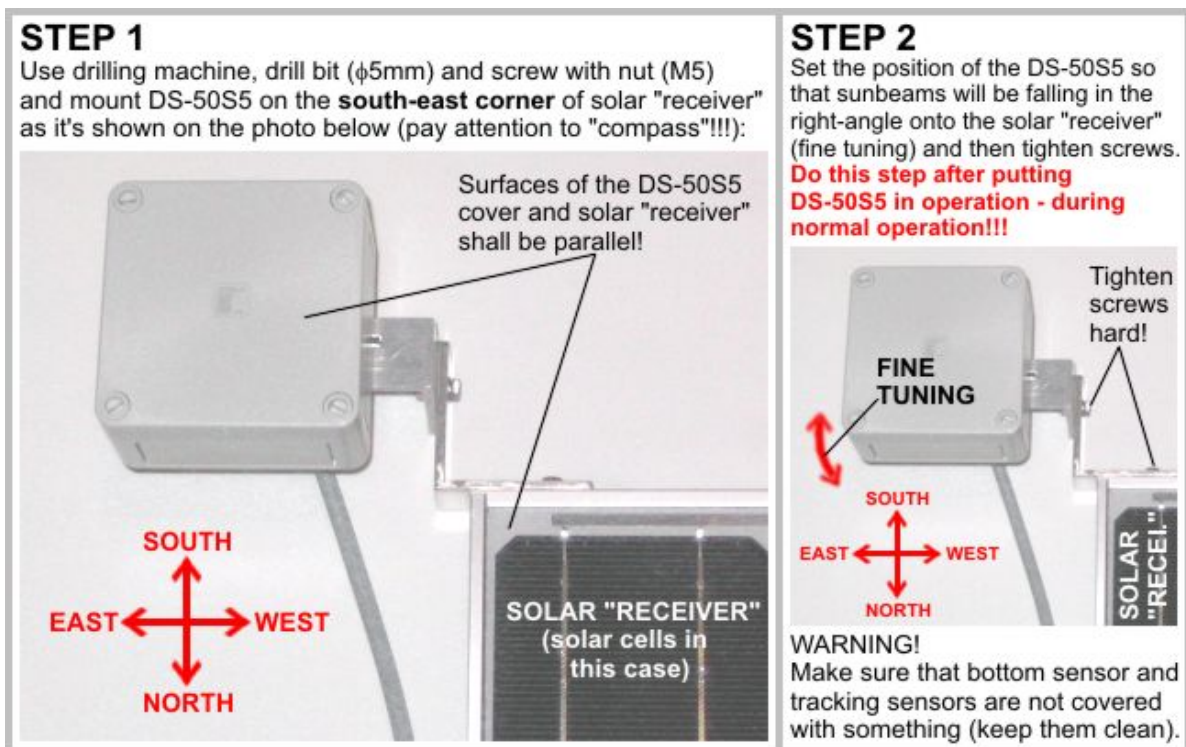

Figure 8: Mounting DS-50S5 on the solar "receiver" (southern hemisphere)
b) If your tracker (solar "receiver") is positioned somewhere in the southern hemisphere of the earth mount DS-50S5 on the south-east corner of your solar "receiver" as it's shown on Figure 8: